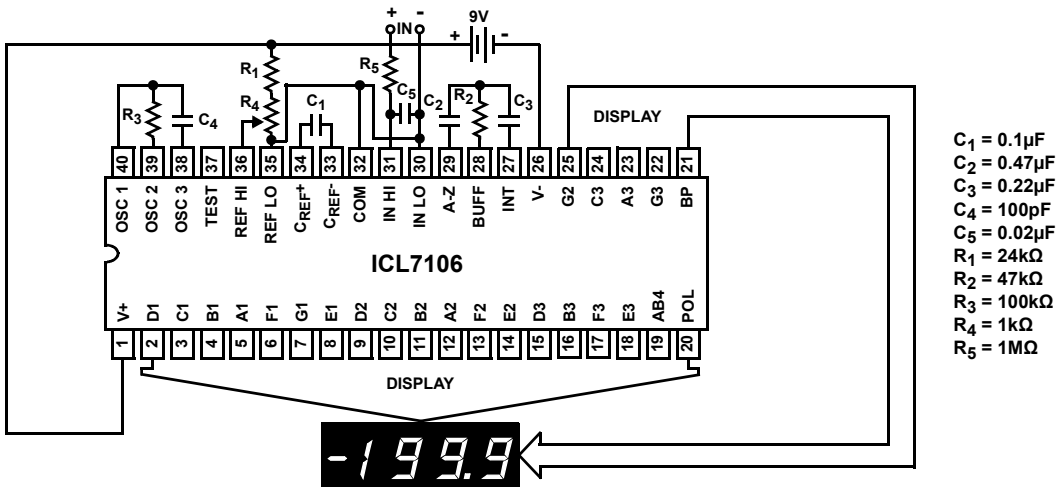
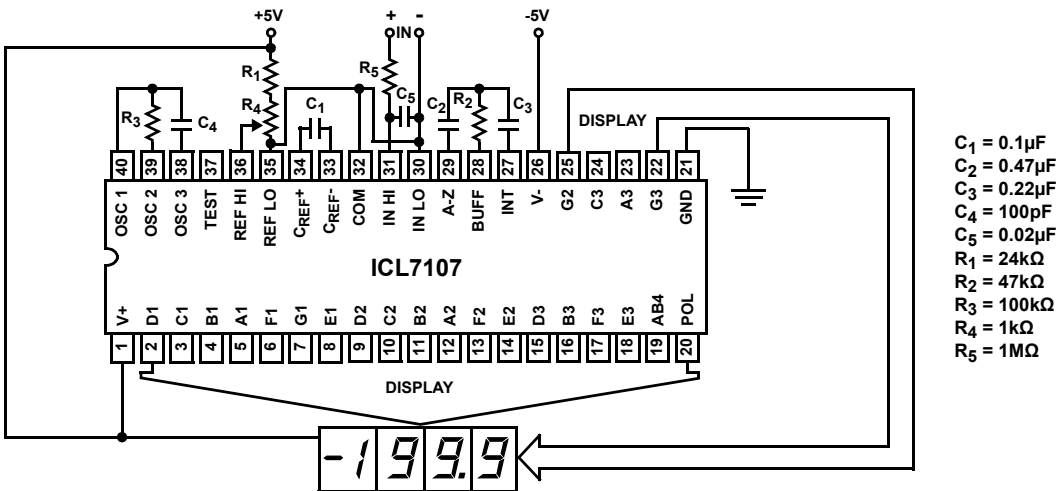

FIGURE 1. ICL7106 TEST CIRCUIT AND TYPICAL APPLICATION WITH LCD DISPLAY COMPONENTS SELECTED FOR 200mV FULL SCALE
FIGURE 2. ICL7107 TEST CIRCUIT AND TYPICAL APPLICATION WITH LED DISPLAY COMPONENTS SELECTED FOR 200mV FULL SCALE
- 8. Unless otherwise noted, specifications apply to both the ICL7106 and ICL7107 at $T_A = +25^{\circ}\text{C}$, $f_{\text{CLOCK}} = 48\text{kHz}$. ICL7106 is tested in the circuit of Figure 1. ICL7107 is tested in the circuit of Figure 2.